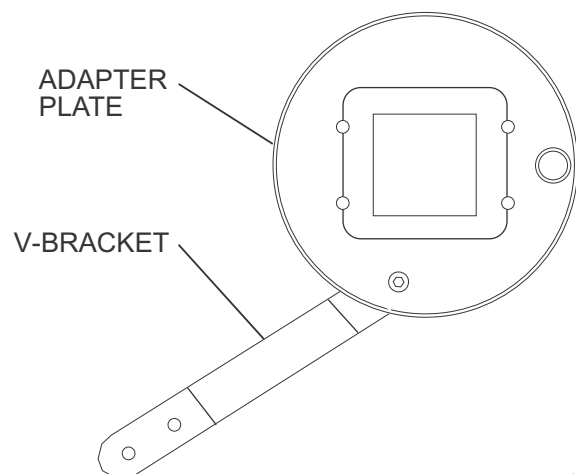

fig. 2
- 7) Install the "V" bracket onto adapter plate as shown in fig. 2. (Do not completely tighten at this time)